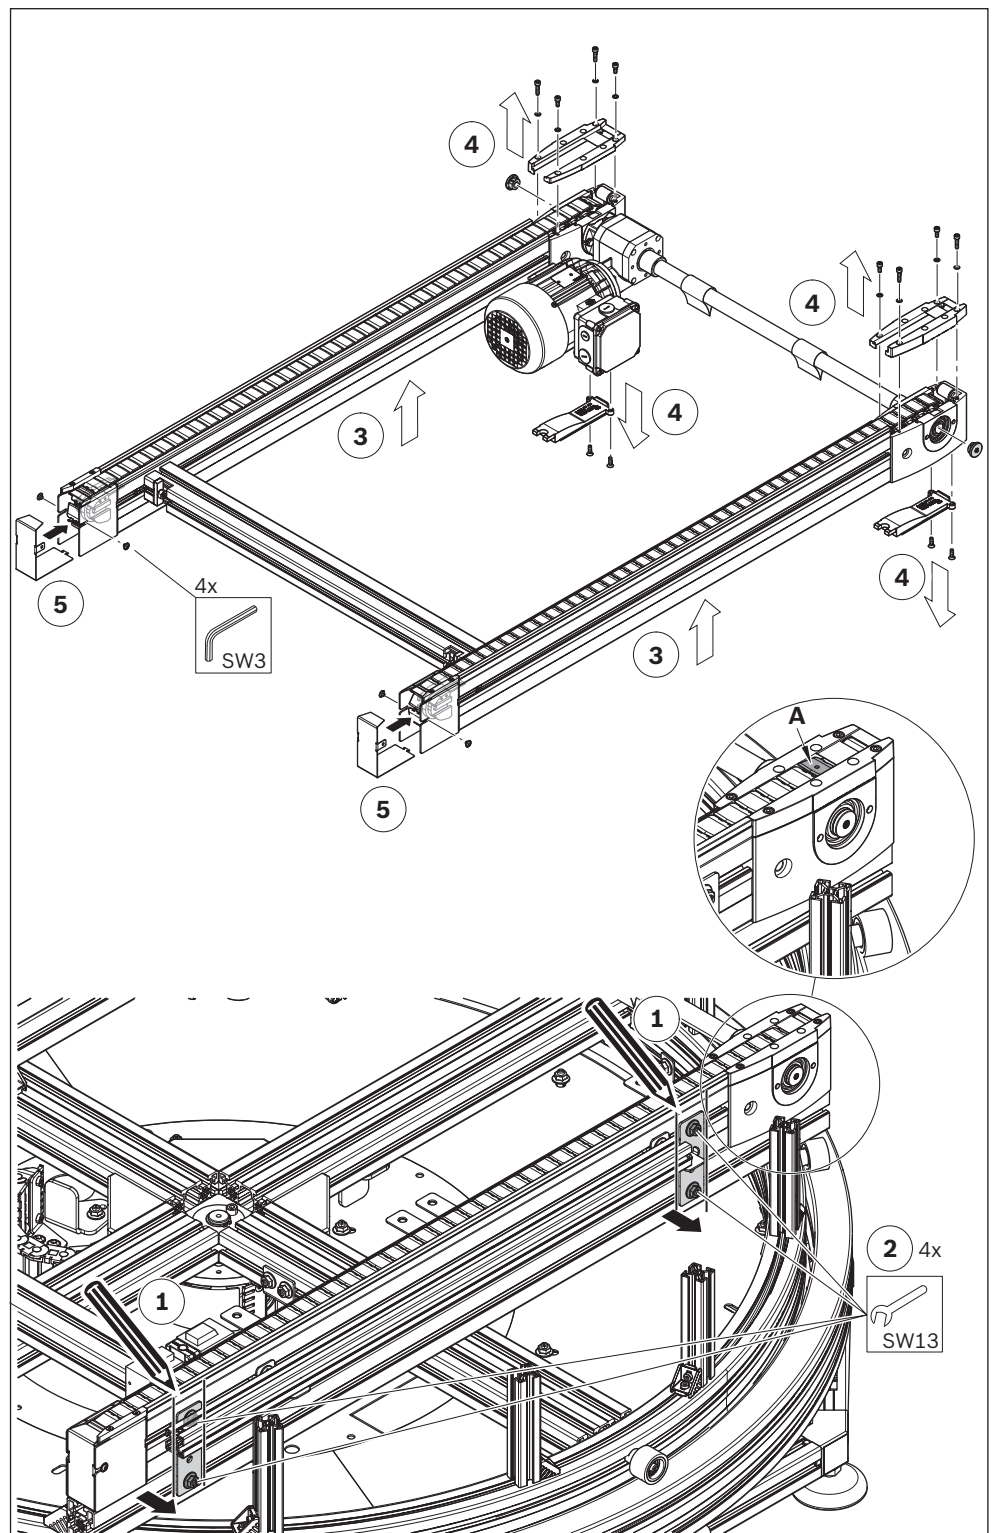
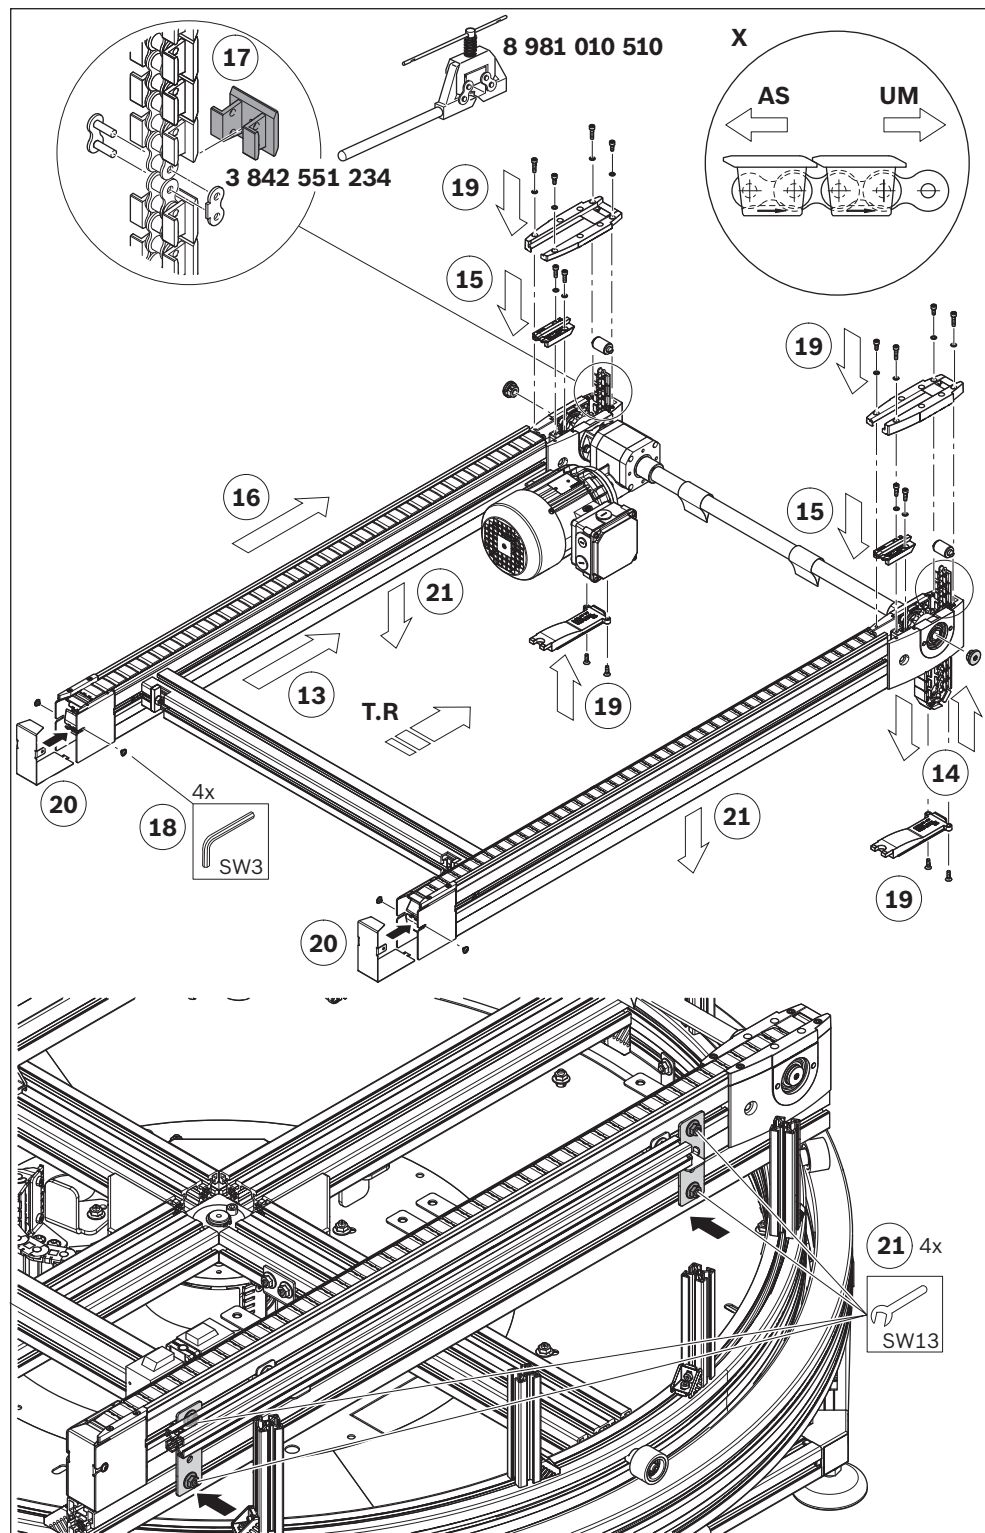

Fig. 36: Replacing the flat top chain, preparation
Fig. 39: Assembling and tensioning the flat top chain
- For removal and installation of the belt section at the rotate unit, see Fig. 36 and Fig. 39.